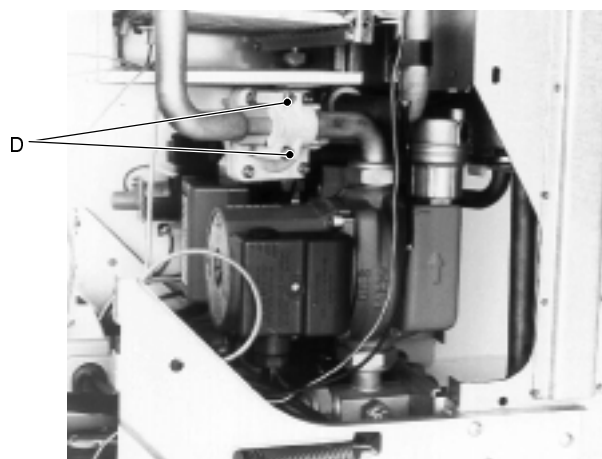

fig. 61
- 5 Loosen the two screws *D* (fig. 61) and remove the flow switch body from the pipe